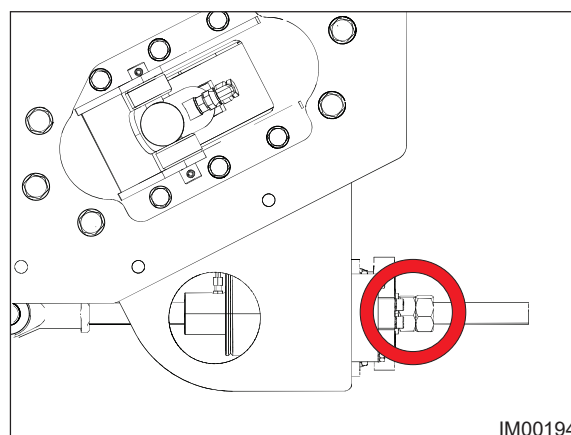

Fig: 7.22 - Lock Nut
14. Once the desired size has been achieved, lock the compression plate nut, then tighten the locking nut (Fig: 7.22). Ensure the spring compression plate is flush with the compression housing.